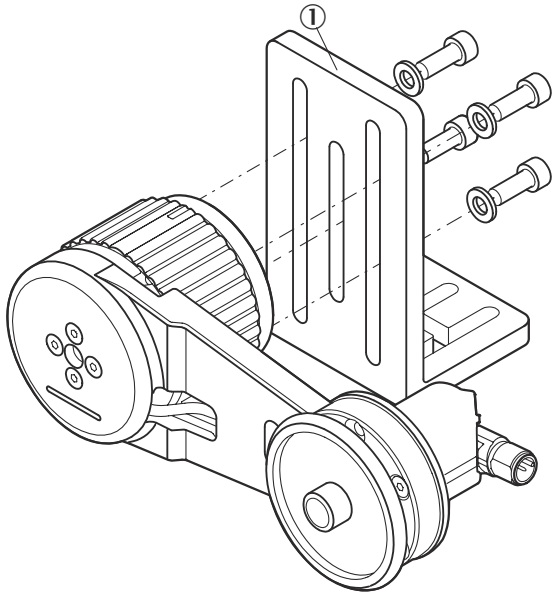

Figure 10: Mounting the MWS120 with a mounting bracket
- ▶ The adaptor plate is mounted in the customer system and secured with 4 x M6 screws (figure 10). The screw length depends on the application and should not exceed the adaptor plate (Thickness of adaptor plate is 7 mm).
- ▶ Mount the adaptor plate of the device to the required position in the application as shown in figure 10.